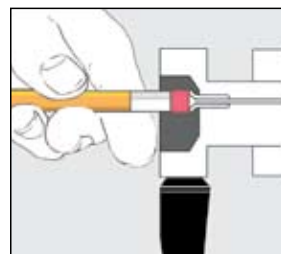

Figure 1 To reform the needle seal, push the eraser end of a pencil against the needle port.
1. If fluid leaks out of the needle port only while loading the loop (i.e., while pushing down on the plunger of the syringe), the problem is most likely that the needle seal or the needle port fitting in the loop filler port is not gripping the syringe needle tightly enough. Tighten the needle seal grip by pushing with the eraser end of the pencil on the needle port (See Figure 1). The tightening reduces the hole diameter of the needle seal and port fitting.